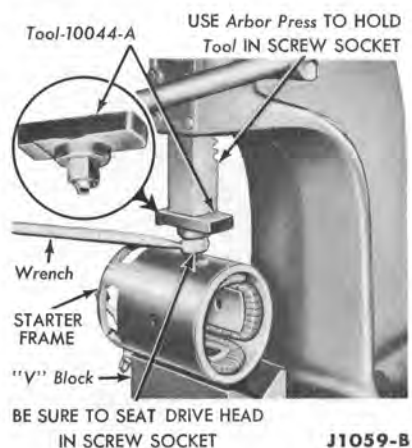

FIG. 11—Pole Shoe Screw Removal
8. Remove the three coil retaining screws, using tool 10044-A and an arbor press (Fig. 11). The arbor press prevents the wrench from slipping out of the screw. Unsolder the field coil leads from the terminal screw, and remove the pole shoes and coils from the frame.